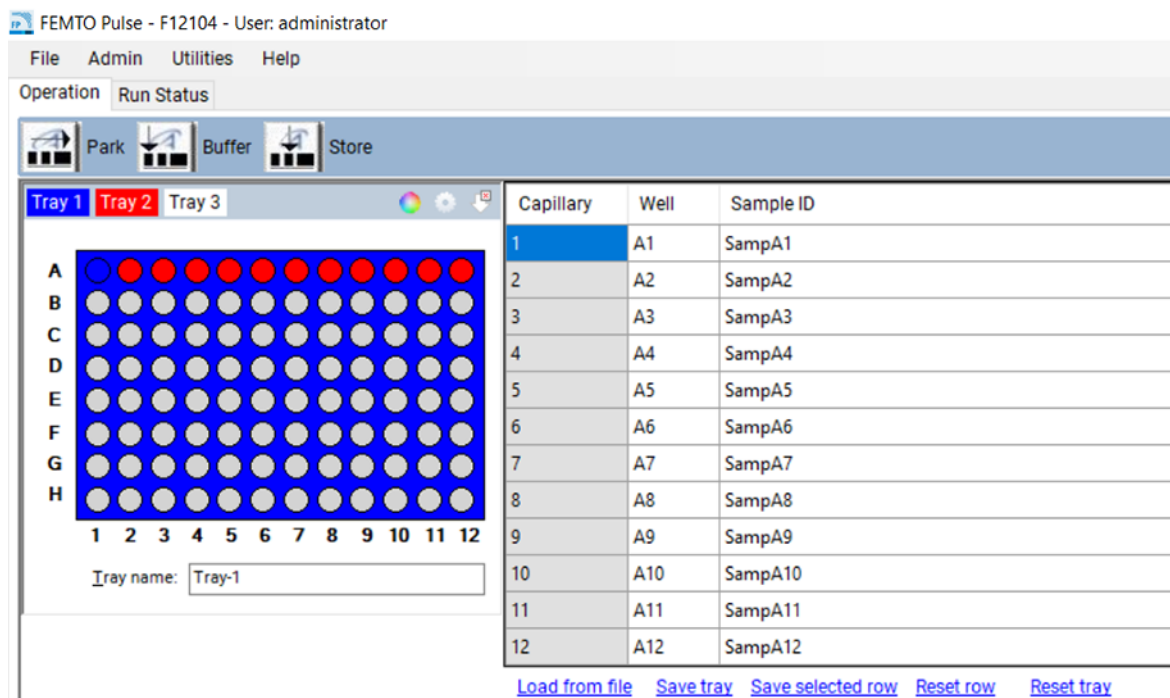

Figure 83 Adding sample names manually
- 3 Select **Save tray** or **Save selected row** to save the file as .txt or .csv (**Figure 83**).